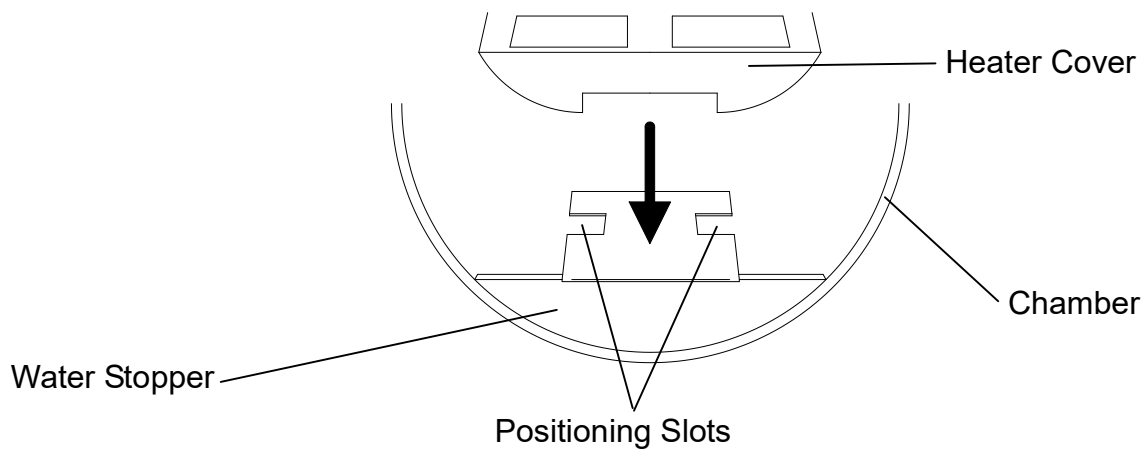

Figure 31 – Heater Cover
E. Install the heater cover to the chamber as shown in Figure 31 (standard accessory) Ensure the rounded edge is towards the back and the vertical front edge of the cover locates securely into the corresponding slots in the lower part of the chamber opening.